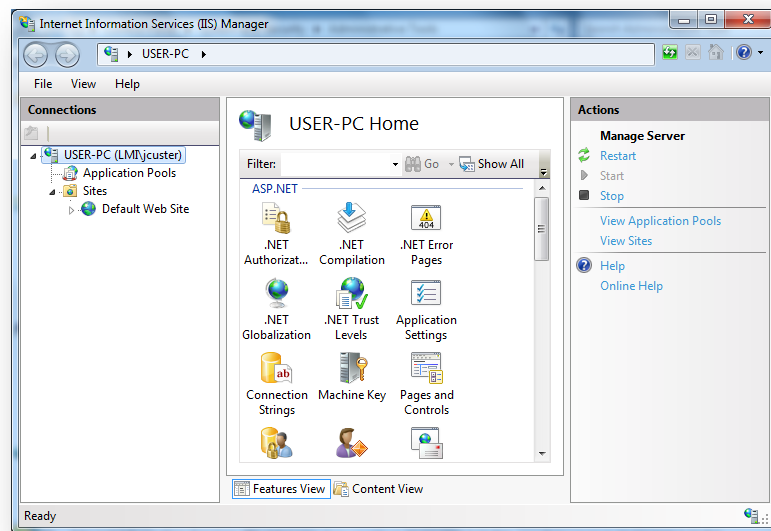

Figure 81 – Internet Information Services (IIS) Manager
5. Right-click on “Default Web Site”, point your cursor at “New”, and click “Virtual Directory”. The Virtual Directory Creation Wizard will appear. See Figure 81.